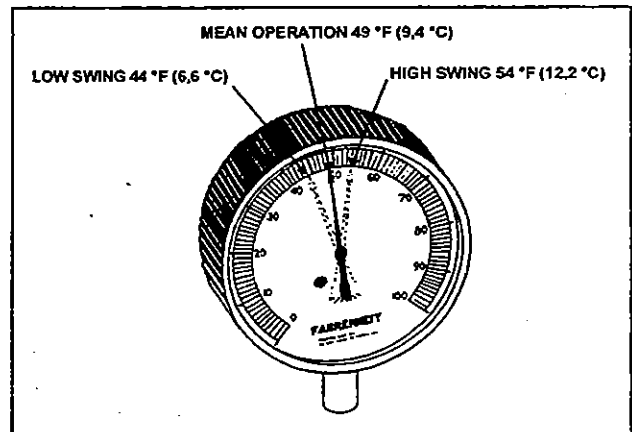

Figure 28: High & Low Swing Temperature at Remote bulb 22047
5. Check approximately 5 readings of pressure at 2-minute intervals and convert to temperature using the temperature pressure (page 43). Likewise check the temperature reading at the remote bulb at the same 2-minute intervals and record the low and high swing readings of the needle (refer to Fig. 28).
EXAMPLE OF READINGS TAKEN (Fig. 28):